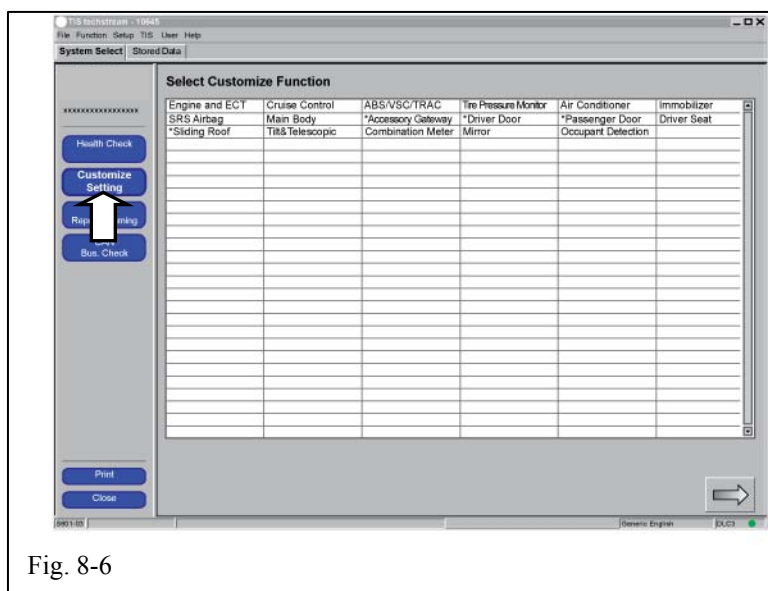

Fig. 8-6
- (i) Click “Customize Setting.” (Fig. 8-6)